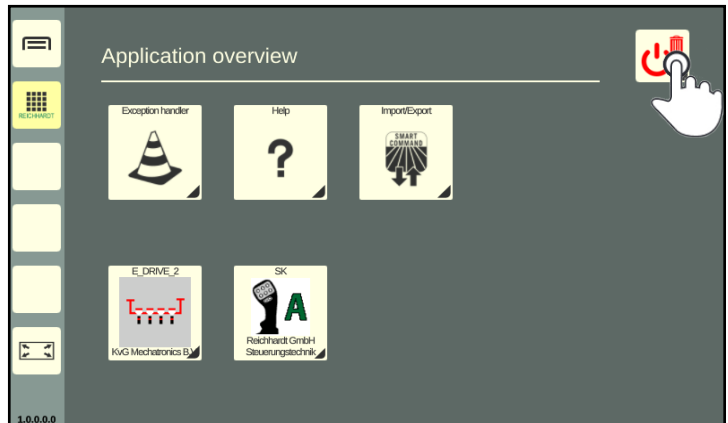

Fig. 75: Tapping the Delete/Exit button
2. Tap the Delete/Exit button (see Fig. 75).